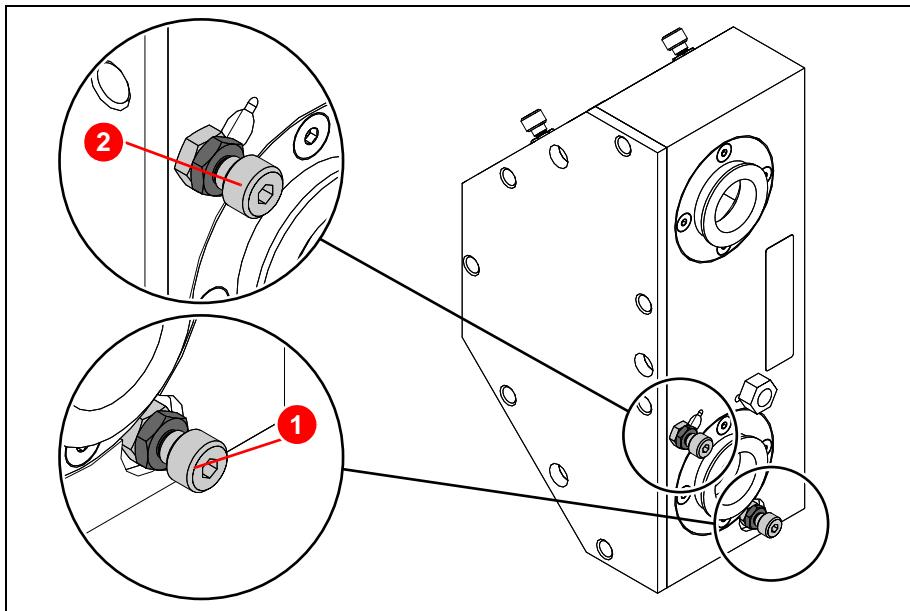

Figure 6.51 Beam adjustment of the lower deflecting mirror
- Horizontal adjustment (1) (Figure 6.51)
- Vertical adjustment (2) ()